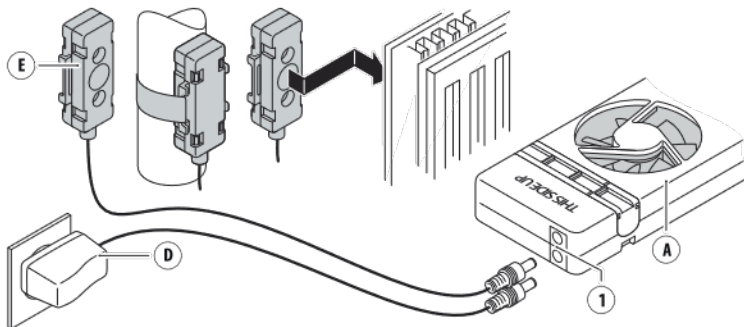

Fig. 3 - Connect the power adapter (D) and temperature sensor (E).
- Connect the **temperature sensor cable (E)** to one of the **SpeedComfort (A) female connectors (1)**.
- Attach the **temperature sensor (E)** with its adjustable magnets (B) on the back of the radiator, close to the warm water supply pipe, or on the pipe itself (see fig. 3). Adjust the magnetic sliders to the correct width.
5. Connect the **power adapter (D)** to the remaining **female connector (1)** and the wall socket (see fig. 3).